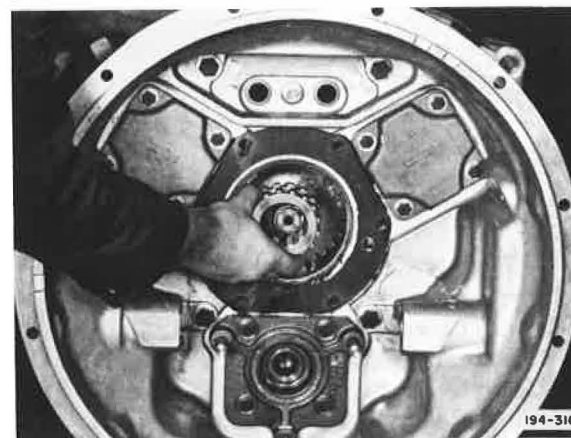

Figure 5-27. Removing Fourth/Fifth Speed Sliding Clutch
8. Remove fourth/fifth speed sliding clutch from mainshaft. See Figure 5-27.